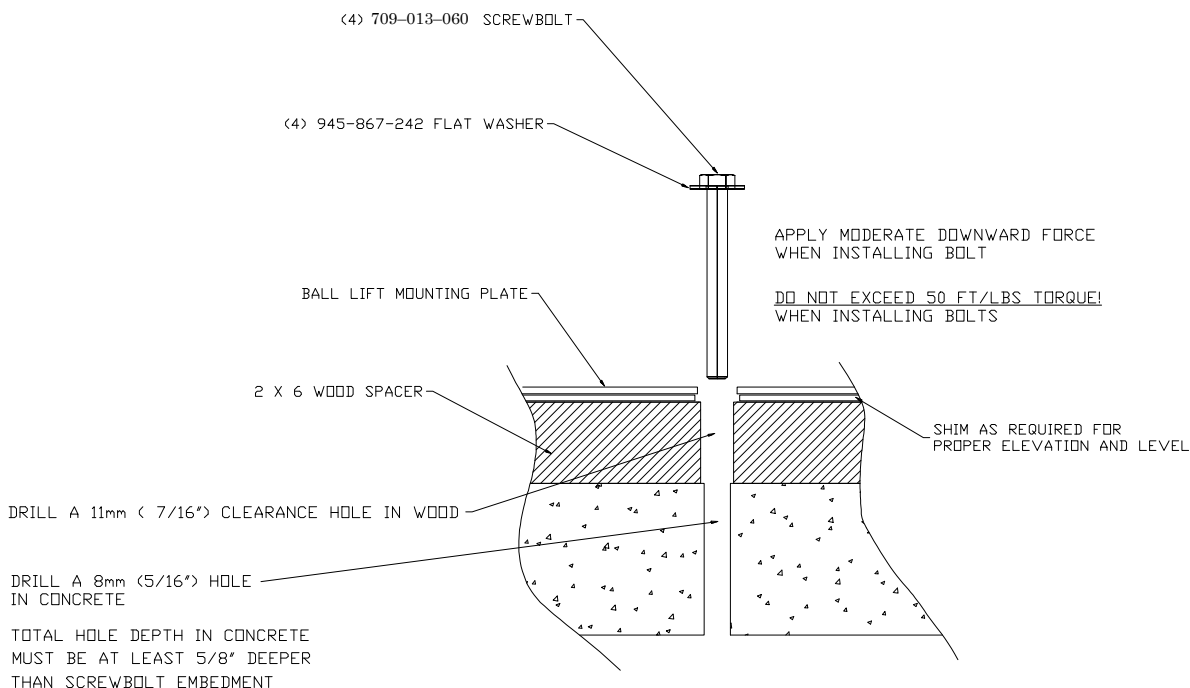

Figure 4, Ball Lift Mounting Requirements
- Anchor the Ball Lift to the subfloor using four 8-mm x 100-mm screwbolts (709-013-060), 7/8-inch o.d. flat washers (948-964-142), and 1½-inch o.d. flat washers (945-867-242). Apply moderate downward pressure to the screwbolts and **do NOT exceed 50 ft-lbs. (68 newton-meters) torque.** (See Figure 4.)